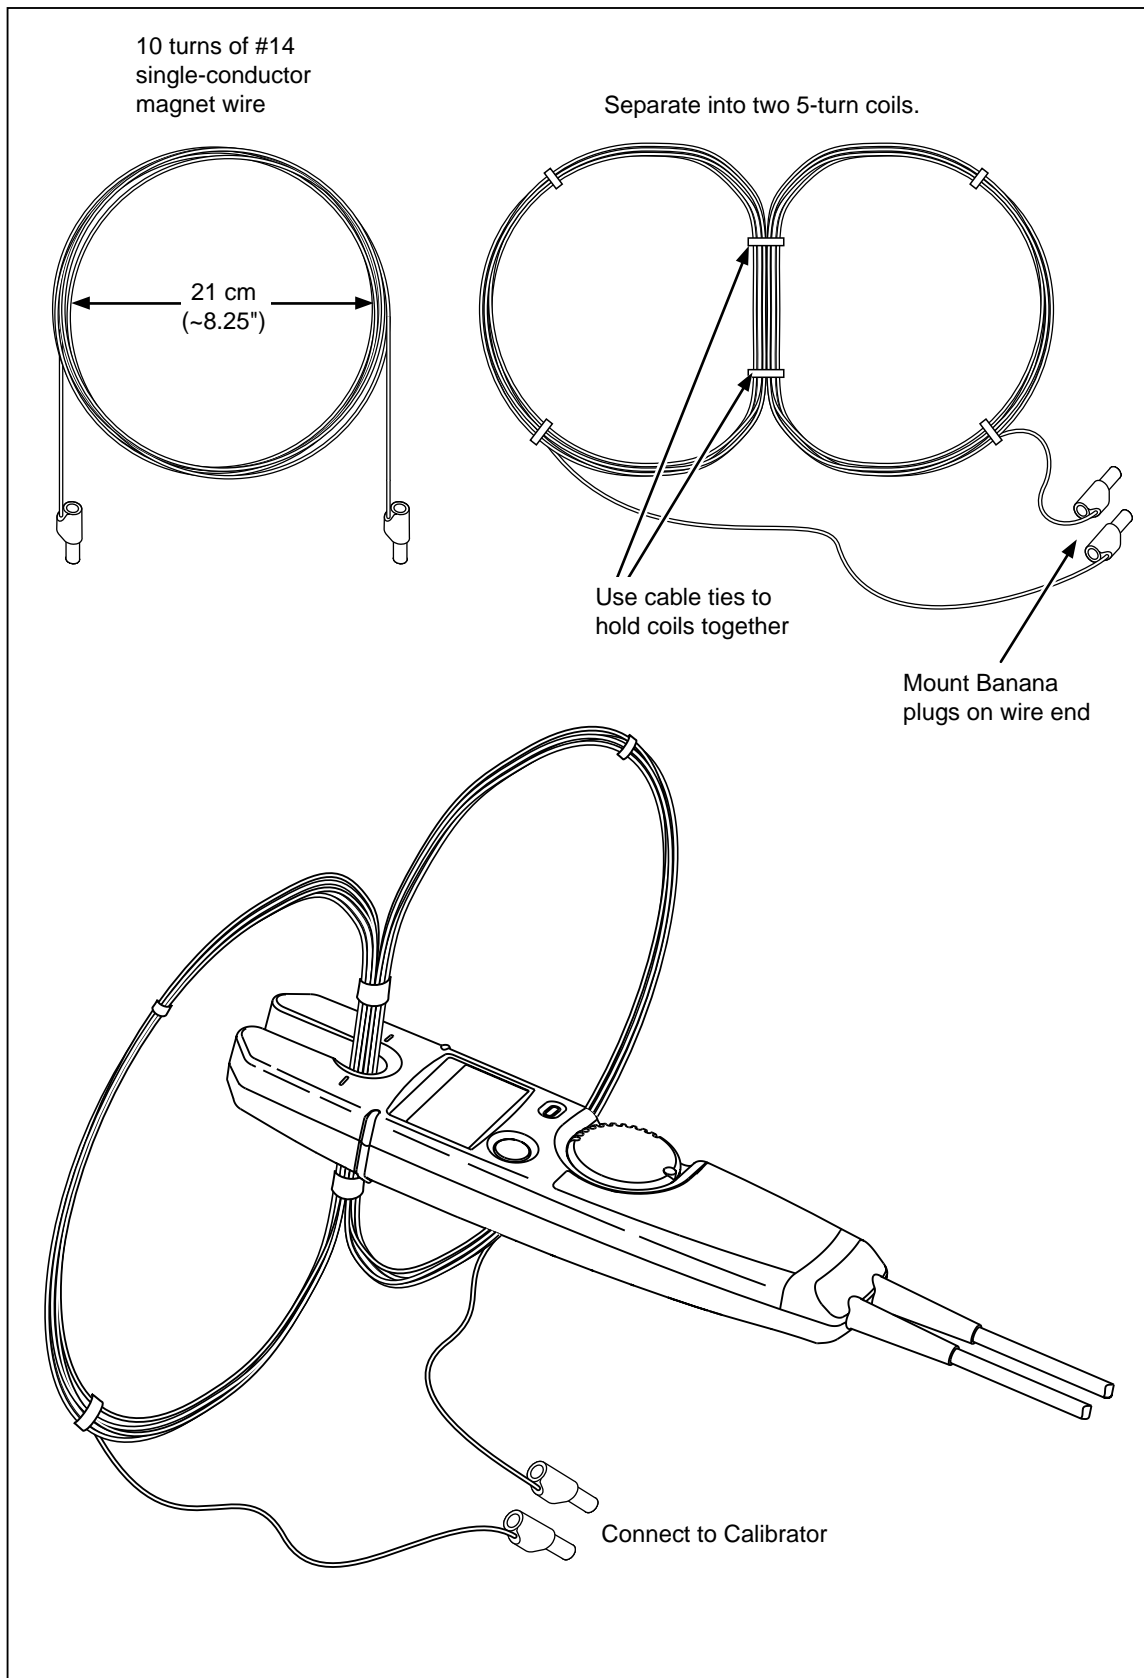

Figure 1. Making the Butterfly Coil
- Approximately 8 m (26 ft) of #14 single-conductor magnet wire wound into a butterfly-shaped coil. Figure 1 shows how to make the coil.
The tests in this section require the butterfly coil shown in Figure 1. Note that the 10 conductors in the middle of the coil cause the tester to read 10 times more current than the calibrator supplies.
5. Place the tester's current fork around the middle of the coil so that the alignment marks are centered and perpendicular to the wire bundle, as shown in Figure 1.